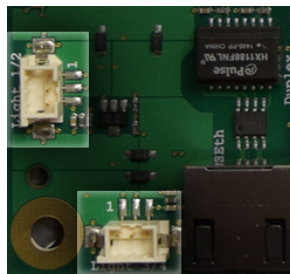

Figure 5 - LED Cluster Harnesses Connected at Main PCB
14. Place the LED cluster harnesses at the main PCB as shown in Figure 5 above.